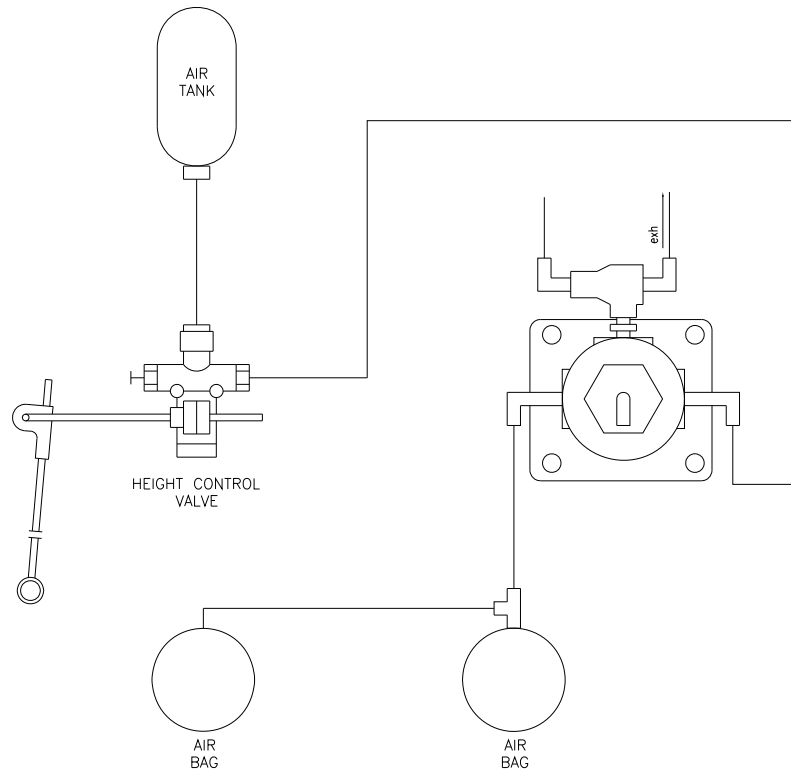

Figure 6
- a) Locate the air hose that runs to the air bags. Cut the air hose near the pilot valve. Connect the end of the hose coming from the height control valve into the pilot valve's "IN N.O." port fitting. Connect the other end of the hose coming from the air bags into the "SUS COM" fitting. (See figure 6)